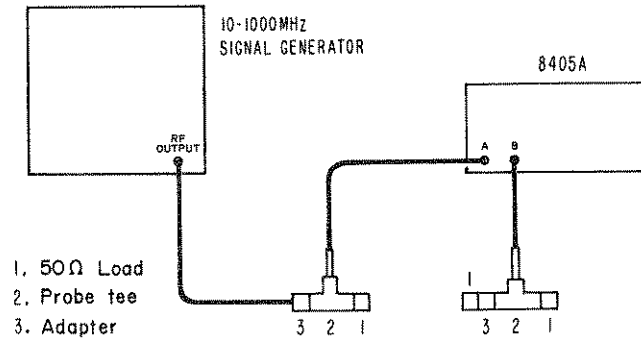

Figure 1. Channel Isolation Check
1. With signal source output at a minimum, connect equipment as shown in Figure 1.
- 1. Set up equipment as shown in Figure 1 and adjust signal source for 1 mV output.